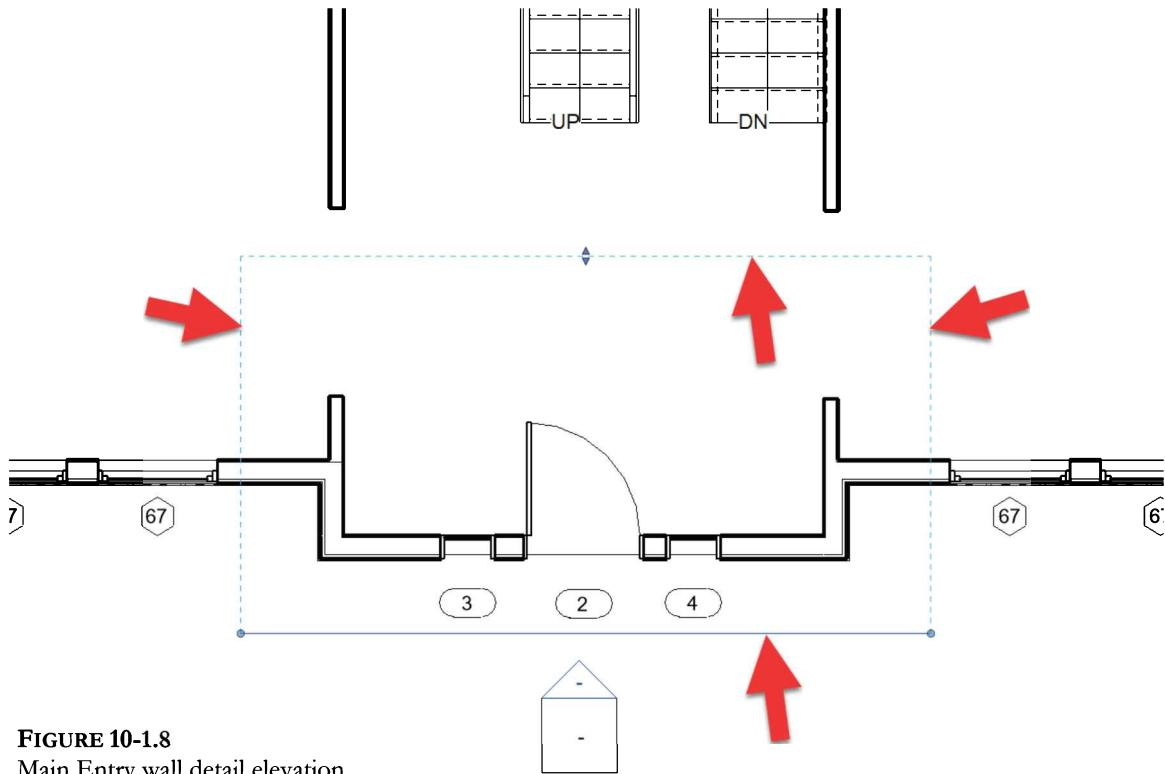

FIGURE 10-1.8
15. In the ***First Floor Plan*** view, adjust the elevation tag to show only the main entry wall (Figure 10-1.8).
Once you modify the view constraints in plan view (Figure 10-1.8) and you switch to the new elevation view, you can click on the *crop region* and use the grips to make the view wider. You might want to do this to make sure the roof overhang shows.